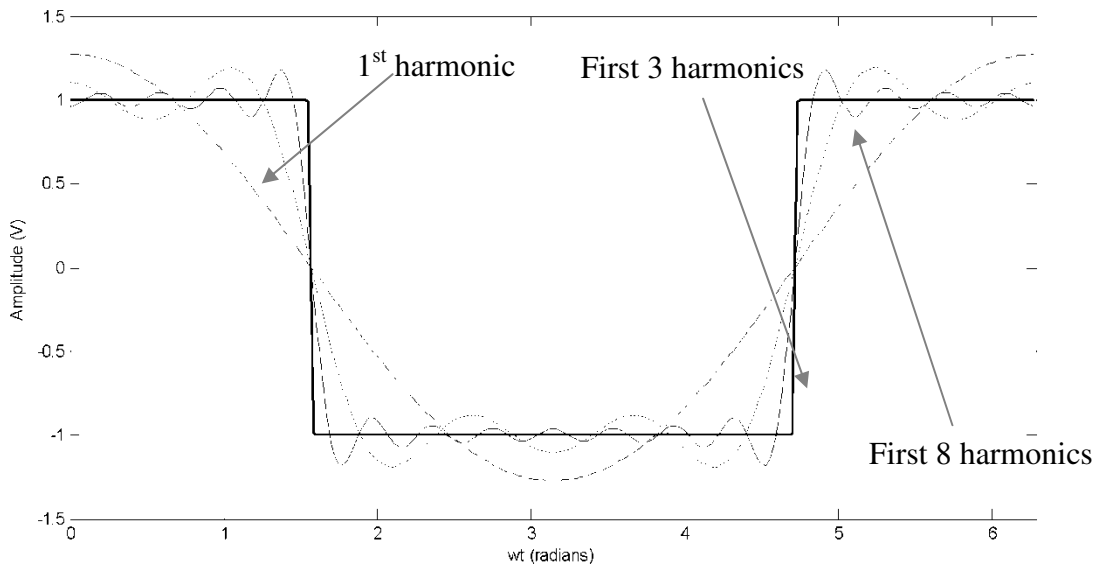

Figure 1 Squarewave for $v_{p-p} = 2V$.
Figure 1 shows a squarewave, which can be expressed as:
where v_{p-p} is the peak-to-peak voltage. Furthermore, for a squarewave $v_0 = 0$ and $v_n = 0$ when n is even. From figure 1 it can clearly be seen that the approximation of the squarewave as a sum of harmonics becomes more accurate as the number of considered harmonics increases. From equation (4):